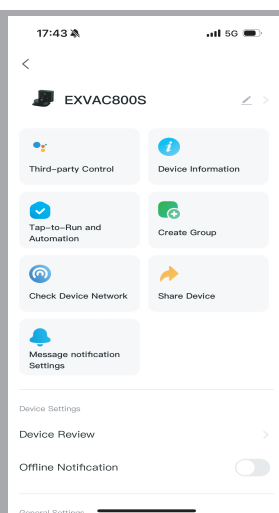

Fig. 19
F). Click the icon  on the main interface and enter Fig.19, users can perform more about F2 Pitbox Pro, such as connecting to the third party (Google assistant, Alexa etc), share device or update the firmware, etc.